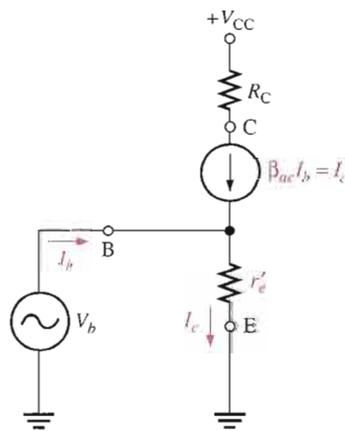

FIGURE 6–12
The ac equivalent circuit for the common-emitter amplifier in Figure 6–8 is shown in Figure 6–10(a). Notice that both  $R_C$  and  $R_1$  have one end connected to ac ground because, in the actual circuit, they are connected to  $V_{CC}$  which is, in effect, ac ground.
AC equivalent circuit for the amplifier in Figure 6–8.
In ac analysis, the ac ground and the actual ground are treated as the same point electrically. The amplifier in Figure 6–8 is a common-emitter type because the bypass capacitor  $C_2$  keeps the emitter at ac ground. Ground is the common point in the circuit.
**Signal (AC) Voltage at the Base** An ac voltage source is shown connected to the input in Figure 6–10(b). If the internal resistance of the ac source is  $0\ \Omega$ , then all of the source voltage appears at the base terminal. If, however, the ac source has a nonzero internal resistance, then three factors must be taken into account in determining the actual signal voltage at the base. These are the *source resistance* ( $R_s$ ), the *bias resistance* ( $R_1 \parallel R_2$ ), and the *input resistance* at the base of the transistor ( $R_{in(base)}$ ), (some prefer to use the term *impedance*). This is illustrated in Figure 6–11(a) and is simplified by combining  $R_1$ ,  $R_2$ , and  $R_{in(base)}$  in parallel to get the total **input resistance**,  $R_{in(tot)}$ , which is the resistance “seen” by a source connected to the input, as shown in Figure 6–11(b). The total input resistance is expressed by the following formula:
**Input Resistance at the Base** To develop an expression for the input resistance looking in at the base, we will use the simplified  $r$ -parameter model of the transistor. Figure 6–12 shows the transistor connected with the external collector resistor,  $R_C$ . The input resistance looking in at the base is
Determine the signal voltage at the base of the transistor in Figure 6–13. This circuit is the ac equivalent of the amplifier in Figure 6–8 with a 10 mV rms, 300  $\Omega$  signal source.  $I_E$  was previously found to be 3.80 mA.